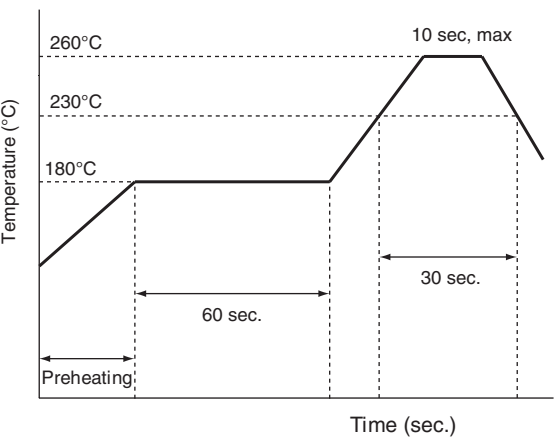

Figure 13: Reflow Soldering Profile
- Reflow Oven: +225°C max (see Figure 13)